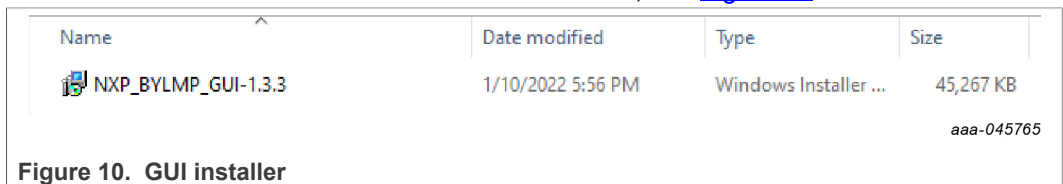

Figure 10. GUI installer
1. Double-click the installer located in the GUI folder, see Figure 10.